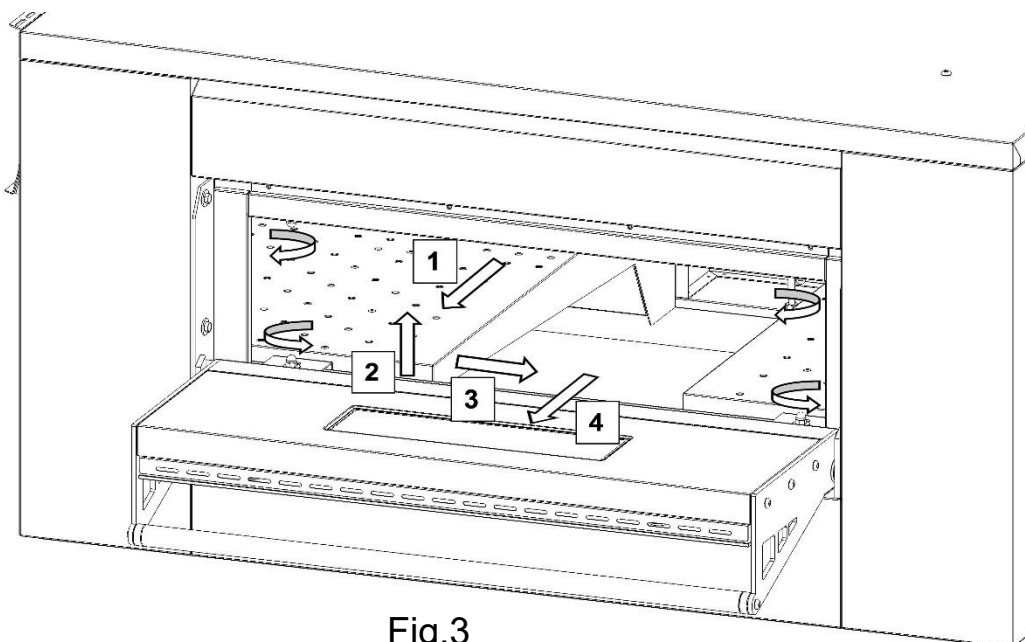

Fig.3
8. Open the side hatch and unbolt the nuts using a number 10 spanner. Making sure to wear a pair of heavy duty gloves to avoid getting scratched from sharp metal corners and take out the diffusers (see Fig.3 paragraph 9.3.1).
7.Open the side hatch and unbolt the nuts using a number 10 spanner (Fig.3). Only for 06/40V model, remove the lateral door and unscrew the fixing bolts with a number 10 spanner.
8.Making sure to wear a pair of heavy duty gloves to avoid getting scratched from sharp metal corners and extract the diffusers as shown in Fig.3 Following the sequence 1-2-3-4.